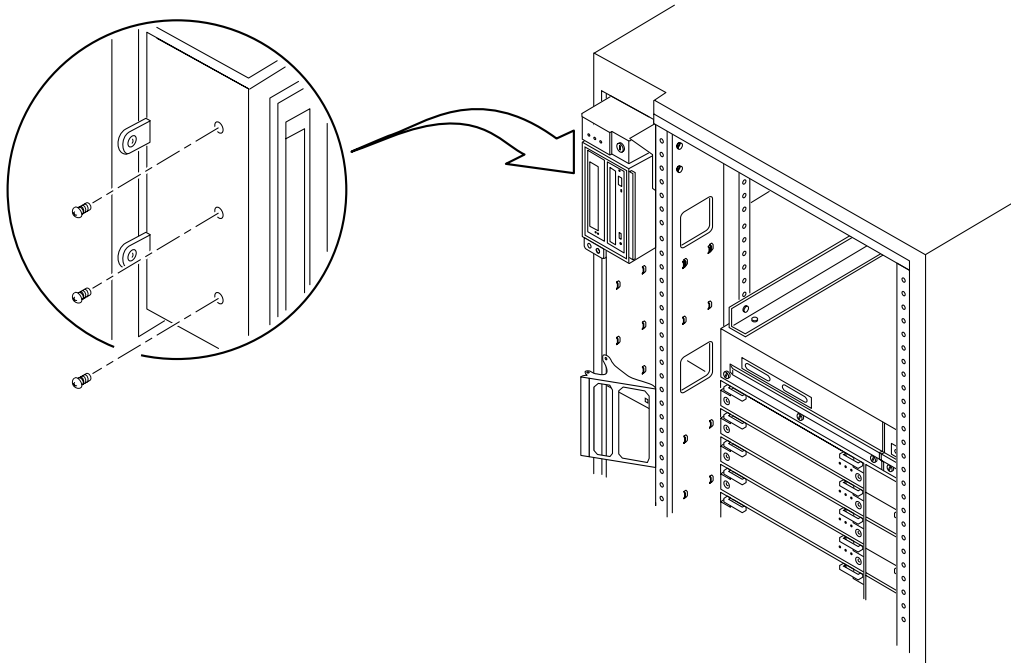

FIGURE 8-5 DVD-ROM/Tape Drive Removal and Replacement
4. **Release the device enclosure from the media tray by removing three screws on the left side of the media tray (FIGURE 8-5).**